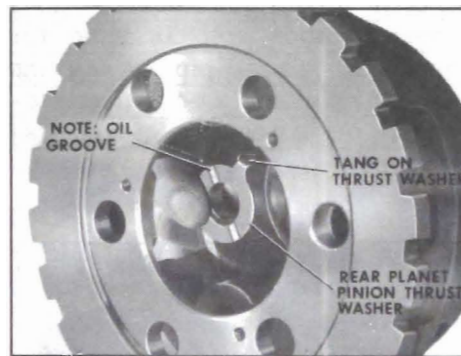

Figure 5-271
2. Install the long planet pinion gears first. Install the rear planet pinion thrust washer. Oil groove must be toward pinion gear. See Figure 5-271.